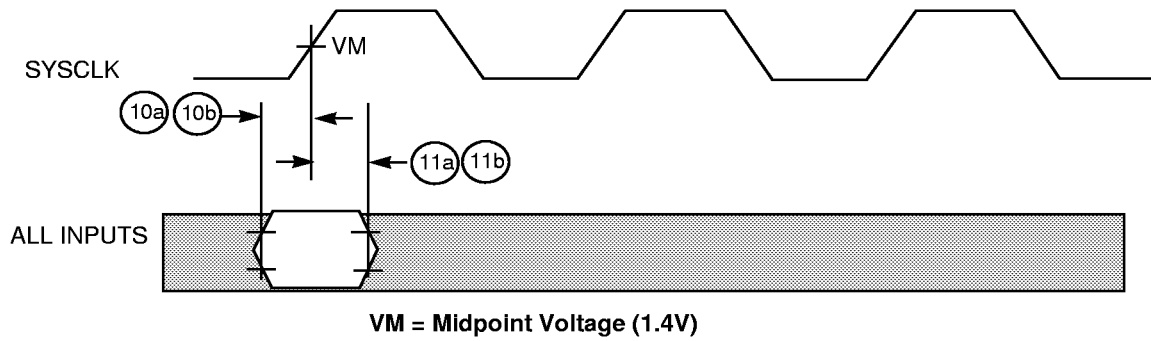
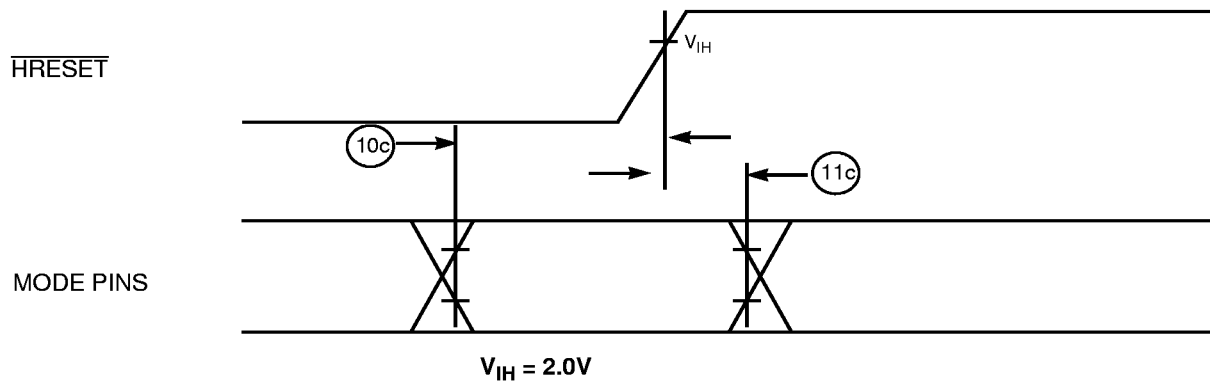

Figure 3. Input Timing Diagram
Figure 4. Mode Select Input Timing Diagram
Table 8 provides the 60X bus input AC timing specifications for the PPC740 and PPC750 as defined in Figure 3 and Figure 4 . Input timing specifications for the L2 bus are provided in Section 3.1.2.5, "L2 Bus Input AC Specifications".
1. Input specifications are measured from the TTL level (0.8 to 2.0 V) of the signal in question to the 1.4V of the rising edge of the input SYSCLK. Input and output timings are measured at the pin (see Figure 3).
4. The setup and hold time is with respect to the rising edge of $\overline{\text{HRESET}}$ (see Figure 4).
Figure 3 provides the input timing diagram for the PPC740 and PPC750.
Figure 4 provides the mode select input timing diagram for the PPC740 and 750.